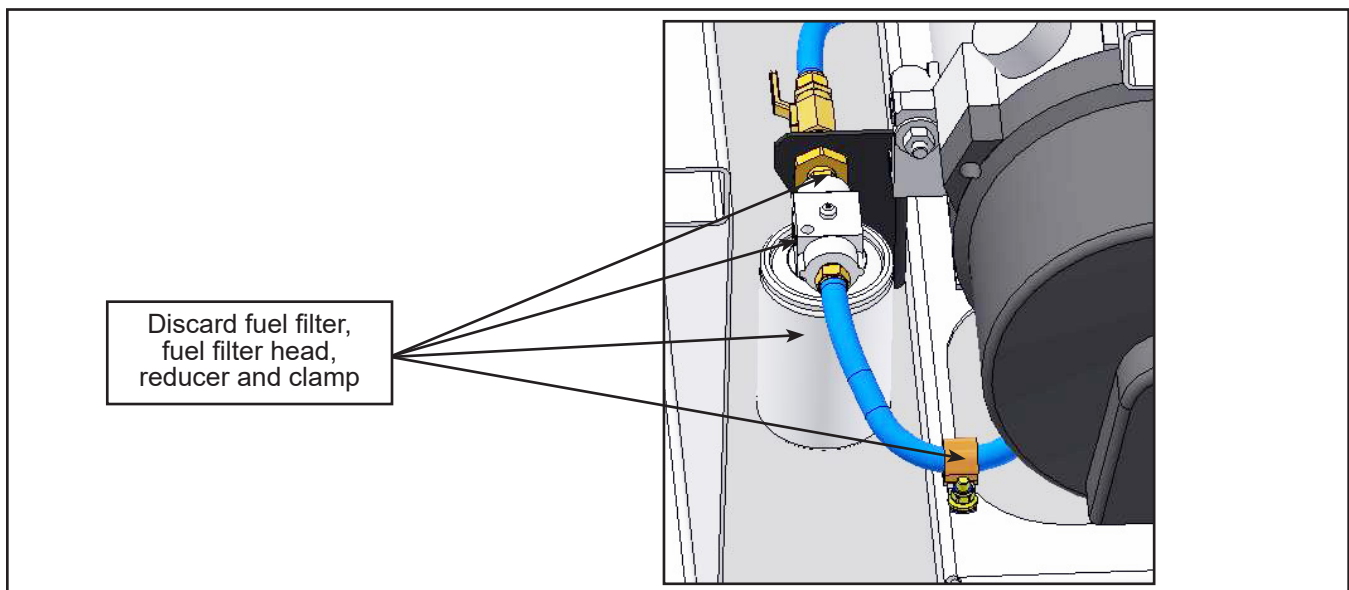

Figure 9 - Remove and Discard Old Fuel Filter Assembly Components
- 1.16. Remove and discard the fuel filter, the fuel filter head, the reducer and the clamp (Figure 9). Keep the passthrough fitting installed on bracket. It is not necessary to remove the old ball valve, it can be left in place. **A certain amount of fuel will spill.**